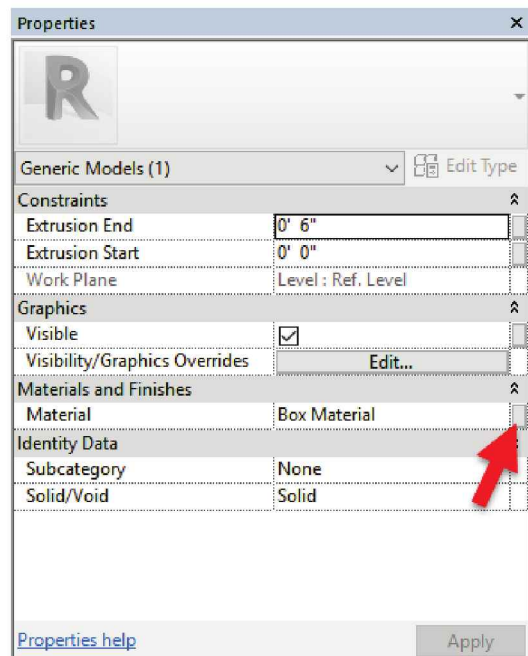

FIGURE 18-4.18 Mapping material to parameter
36. Click the small mapping icon to the far right of the **Material** Parameter (see Figure 18-4.18).